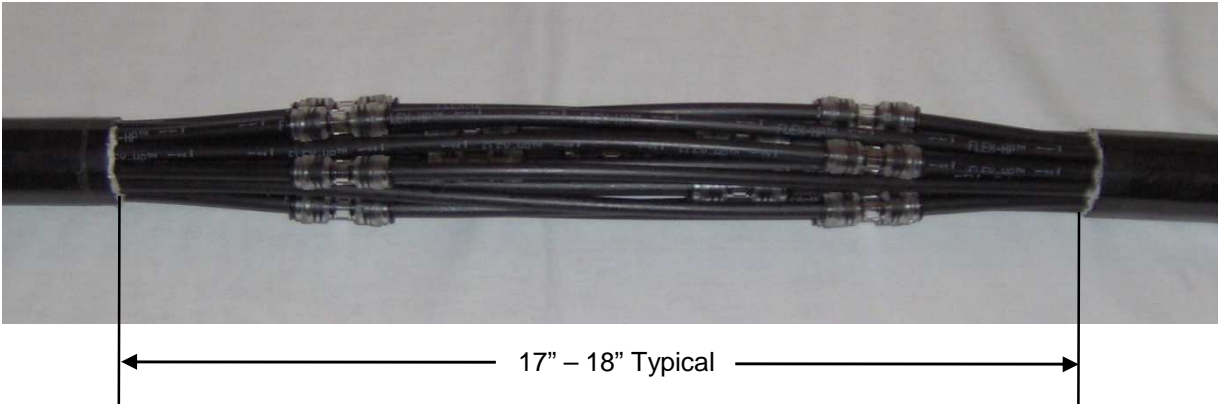

Figure 31
16.18 After all tubes are coupled, make final adjustments to tube and tube cable positions and secure in place to complete the installation. **(See Fig. 31 for an example.)**